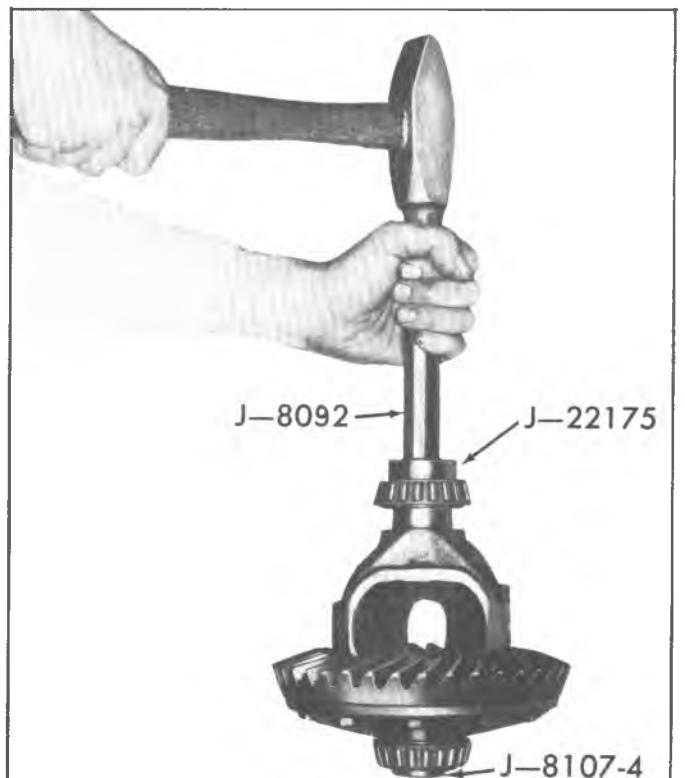

Fig. 4C—Differential Bearing Installation
2. Install new bearing on hub using Installer J-22175. See Figure 4C.
of bearing cage. See Figure 4C. Install remaining bearing.